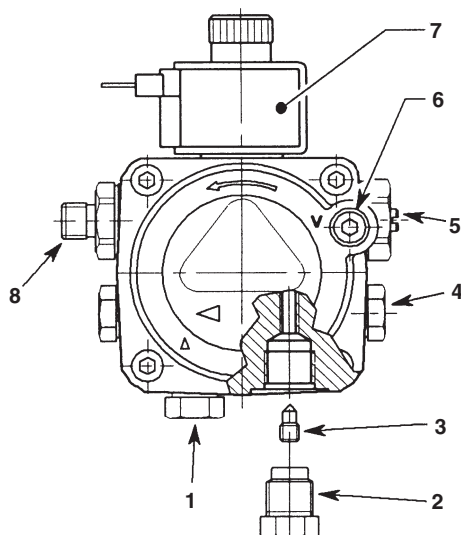

Fig. 9 - RDB pump
See Fig. 9
- 1 The fuel pump is supplied for use with a single pipe fuel supply system. For use on a two pipe system, it is necessary to fit the By-pass screw (see Fig. 9) into the tapping in the return port.
- 7 Flexible fuel lines and adaptors are available to purchase from Grant Engineering (UK) Ltd.